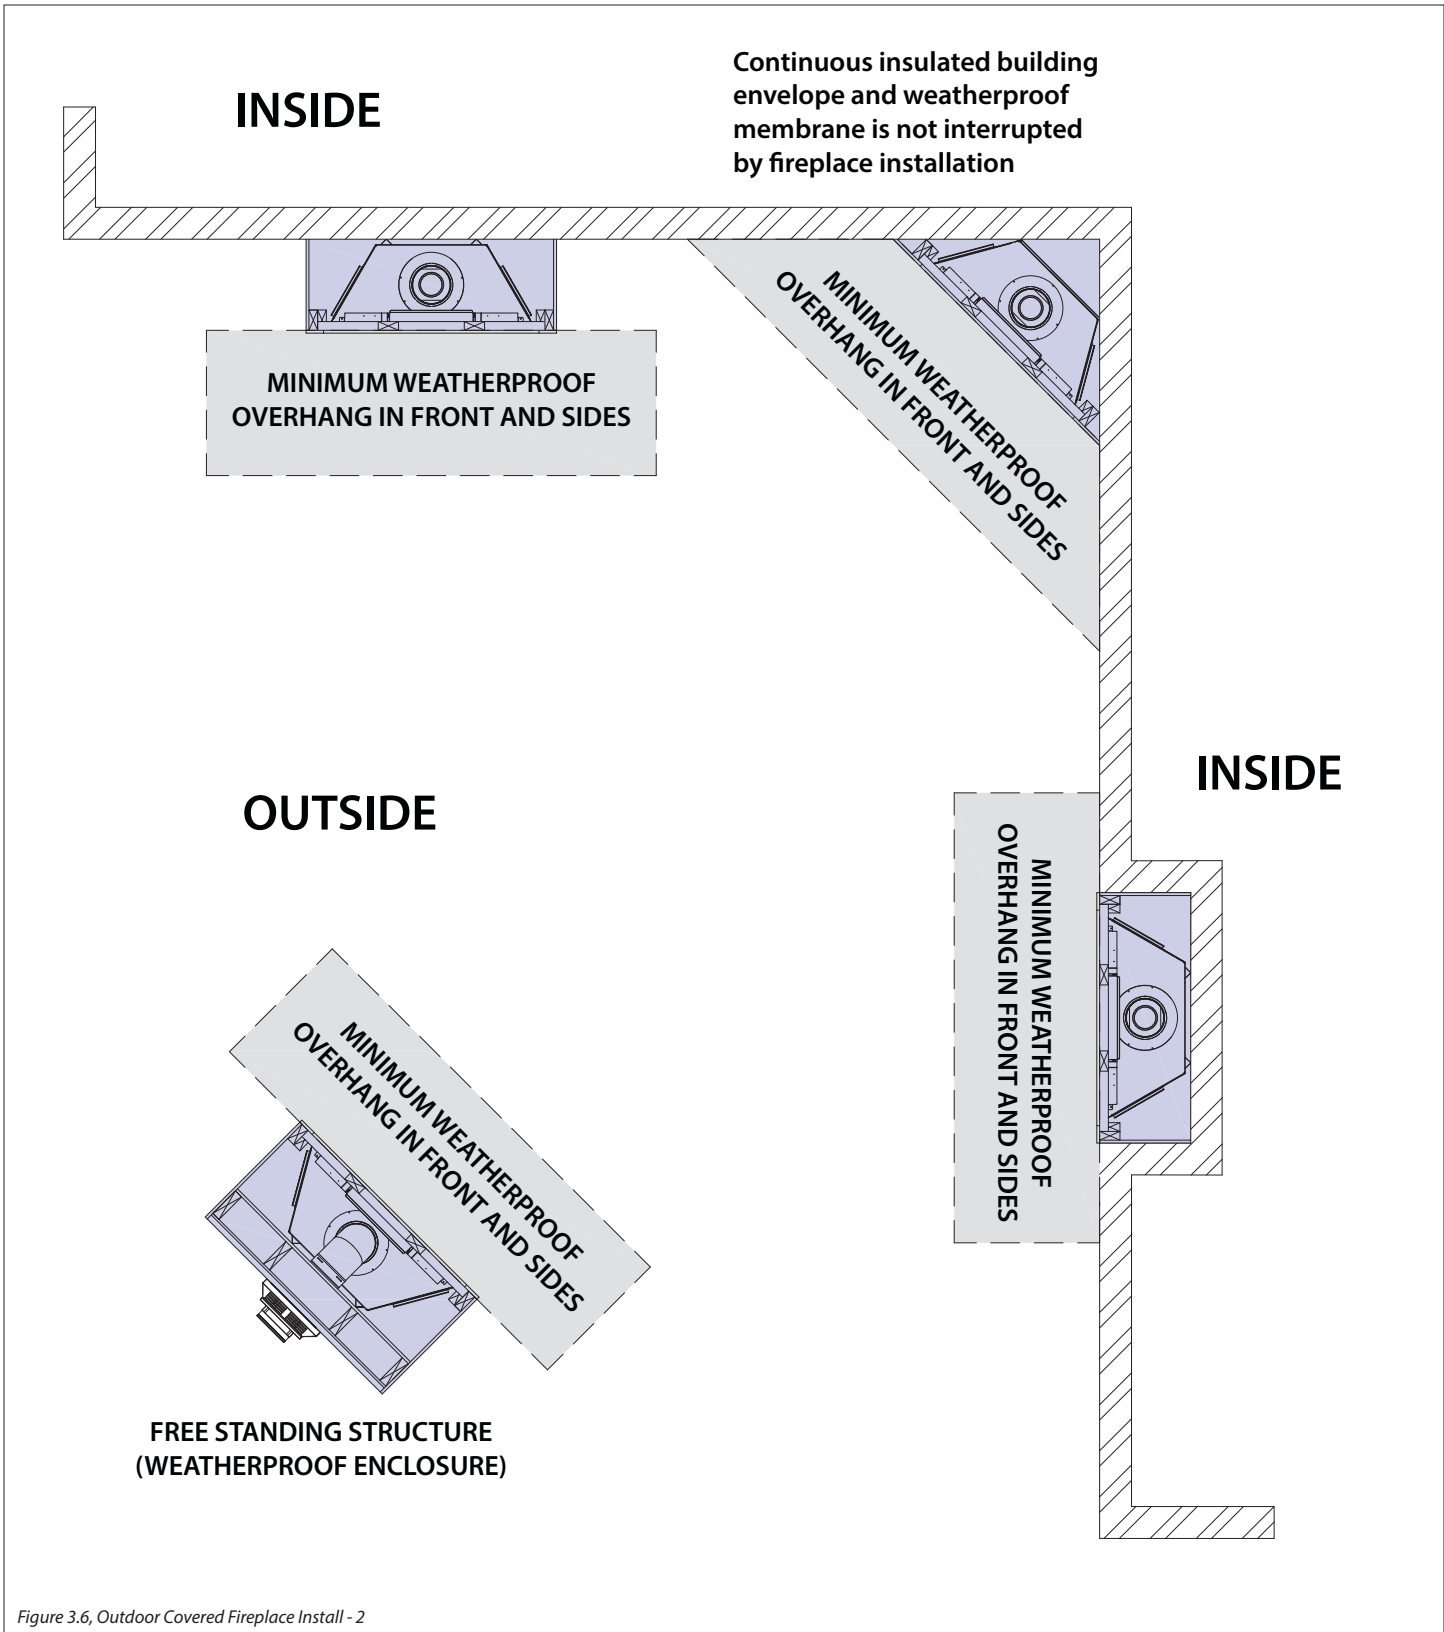

Figure 3.6, Outdoor Covered Fireplace Install - 2
- The continuous insulated building envelope and weatherproof membrane are not to be interrupted by fireplace installation. See Figure 3.6 on the following page..